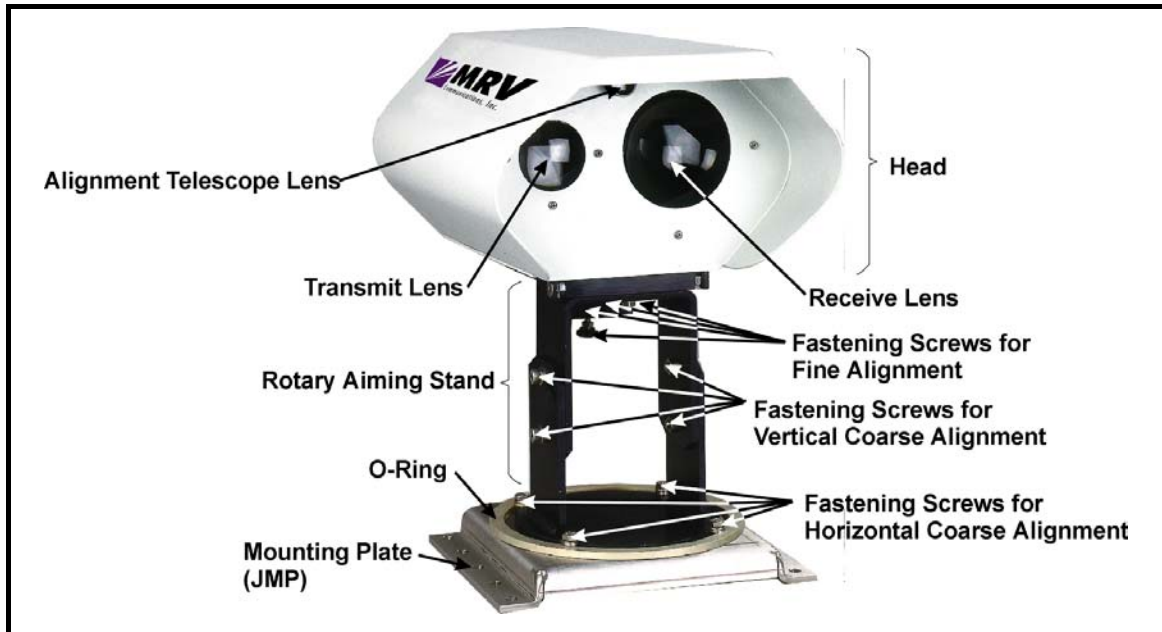

Figure 16: TereScope 1 with Mounting Plate and O-Ring
1. Mounting Plate (**JMP**) and Mounting Ring – shown in *Figure 16*. These are used for mounting on a horizontal concrete surface, and are supplied with all TereScope 1s. The Mounting Plate is *always* required.
1. If you are going to use an *MRV* standard mount, disassemble the mounting plate and mounting ring (shown in *Figure 16*) – if they are joined to each other – from the TereScope 1.
4. Secure the TereScope 1 with bolts and washers, with the mounting ring outside the bolts – see *Figure 16*. Do not tighten the bolts so that the TereScope 1 can be rotated. Tighten them only after coarse alignment has been performed as described in the section *Coarse Alignment*.
1. Slightly loosen the Horizontal Motion Locking Bolts and the Vertical Motion Locking Bolts (two on each support bracket) – see *Figure 16*.